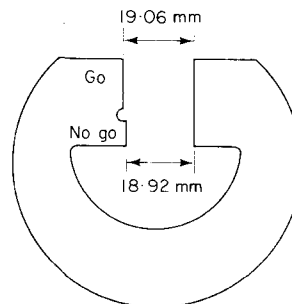

Fig. 10
- 23a. Fig. 10 shows a
- 23b. The tolerance on the part to be checked by the gauge in Fig. 10 is